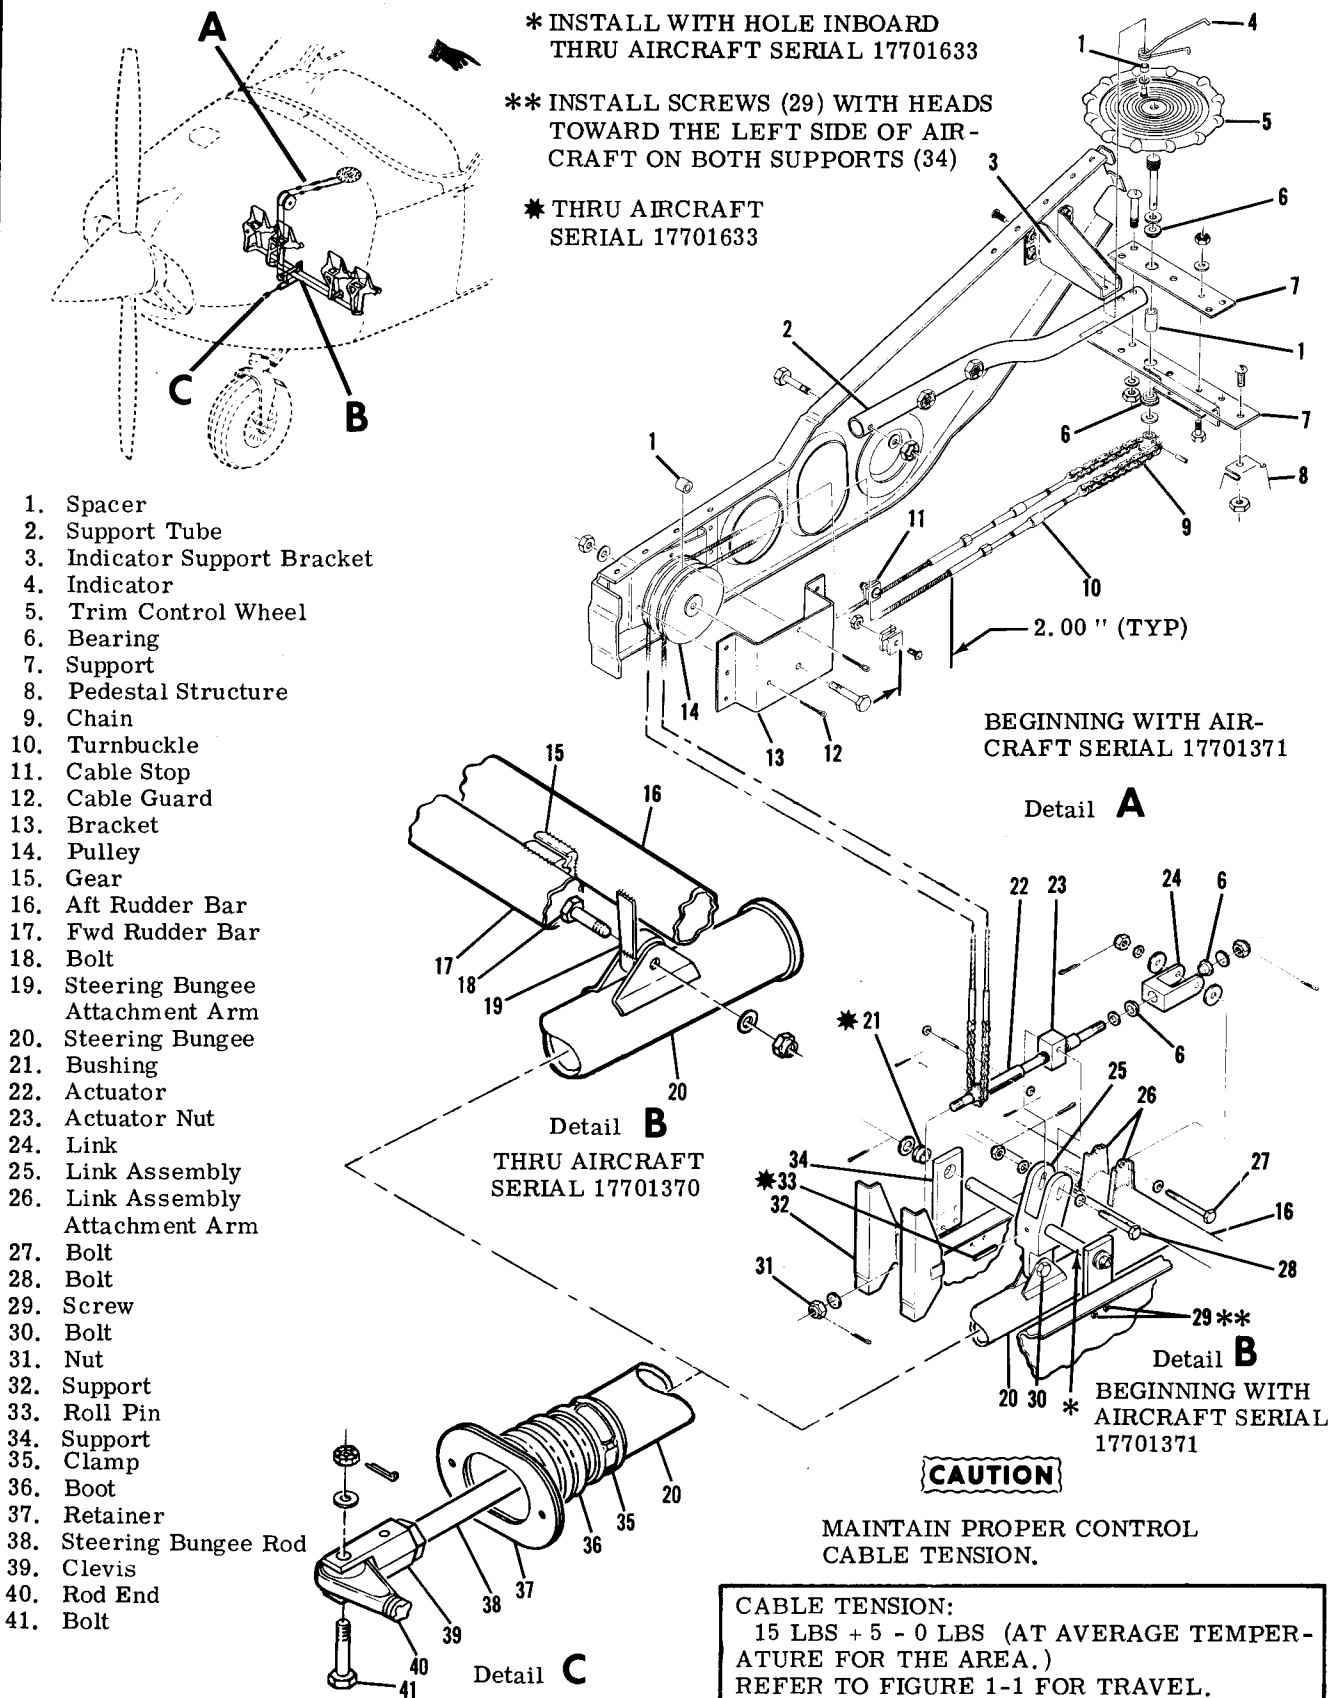

Figure 10-5. Rudder Trim Control System
- b. Relieve the cable tension at turnbuckles (15).
- c. Remove pin (index 1, figure 10-5) securing steering bungee rod to steering collar spindle.
- e. Adjust turnbuckles (15) evenly to streamline rudder and obtain proper cable tension. Safety turnbuckles (15).
10-12. RUDDER TRIM CONTROL AND NOSE WHEEL STEERING SYSTEM. (Refer to figure 10-5.)
10-15. STEERING BUNGEE. (Refer to figure 10-5.)
10-17. TRIM CONTROL WHEEL. (Refer to figure 10-5.)
10-19. RIGGING. (Refer to figure 10-5.)